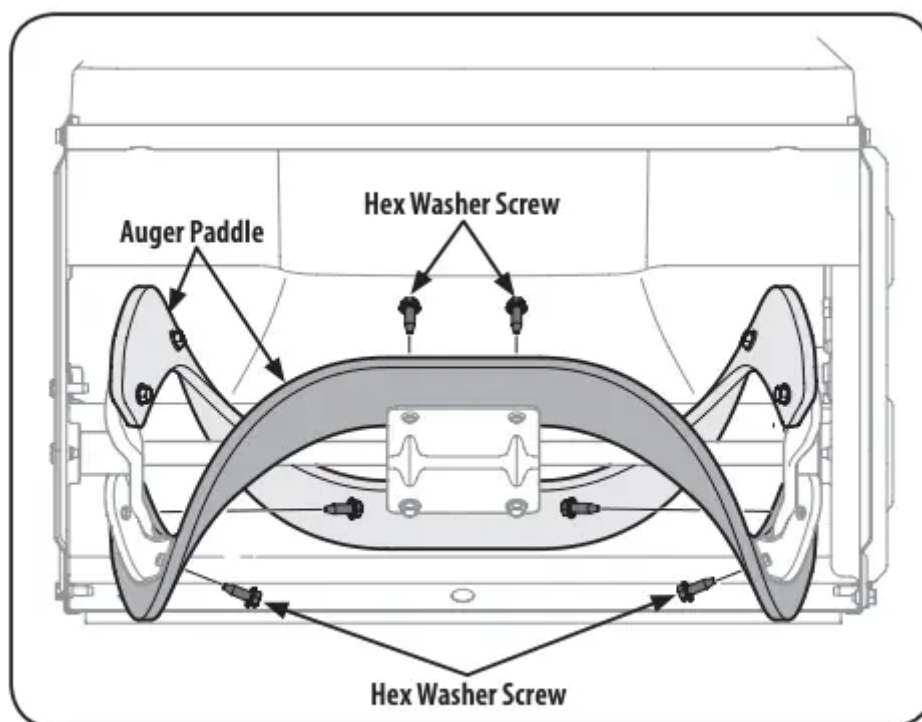

Figure 6
To change the rubber paddles, proceed as follows and refer to Figure 6:
3. Remove the existing rubber paddles by unthreading the hex washer screws which secure them to the auger. See Figure 6. **NOTE:** The auger paddles should be replaced one at a time so that the auger paddle still attached can be used as an example for positioning and re-installing the new auger.